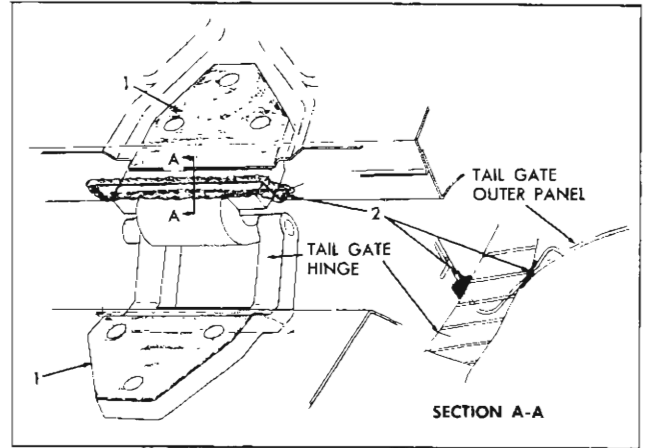

Fig. 89—Tail Gate Hinge Assembly
9. To install tail gate assembly reverse removal procedure. Prior to installation apply a coat of heavy bodied sealer to surface of hinge straps that contact tail gate inner panel (fig. 89).
5. To install tail gate hinge, reverse removal procedure. Prior to installation apply a coat of heavy bodied sealer to surfaces of hinge strap which contact tail gate inner panel and body rear cross bar (fig. 89). Where necessary adjust tail gate for proper alignment in body opening as described under "Tail Gate Adjustments."